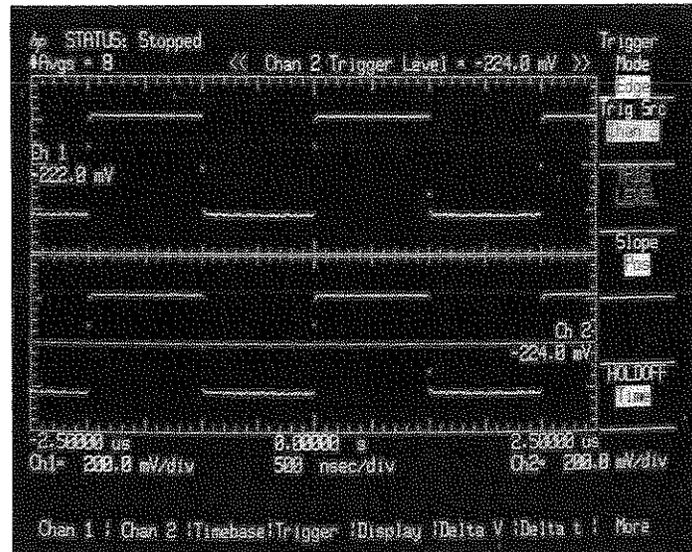

Figure 7-15. Split Screen with Trigger on Chan 2
6. Select chan 2 as the Trig Src. The unit is now triggering on chan 2. The line showing the trigger level will be on the chan 2 display. The trigger level on chan 2 can be varied by using the input devices (see figure 7-15). The trigger level function is shown at the top of the waveform area and at the bottom of the display in the factors area.